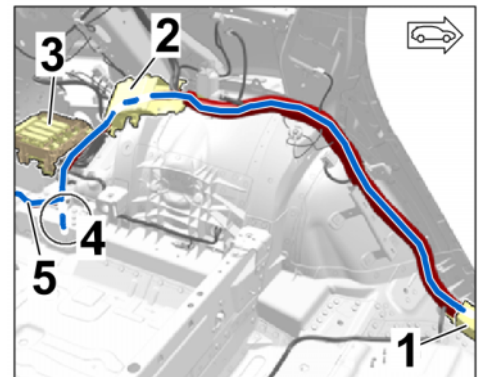

Figure 19
3.2.3 Wheel housing area, left (⇒ Figure 19)